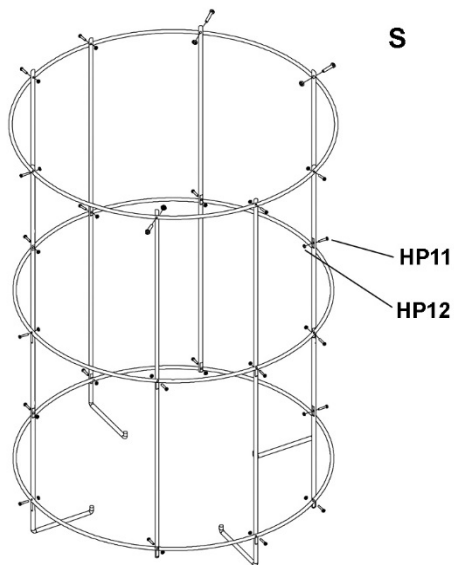

Figure 13
18. Screw the short and long frame supports into the hoops in alternating manner, as shown in Figure 13. Secure with 24 pan head screws and hex nuts (HP11, HP12). (Note: The bends on long supports point inward as shown.)